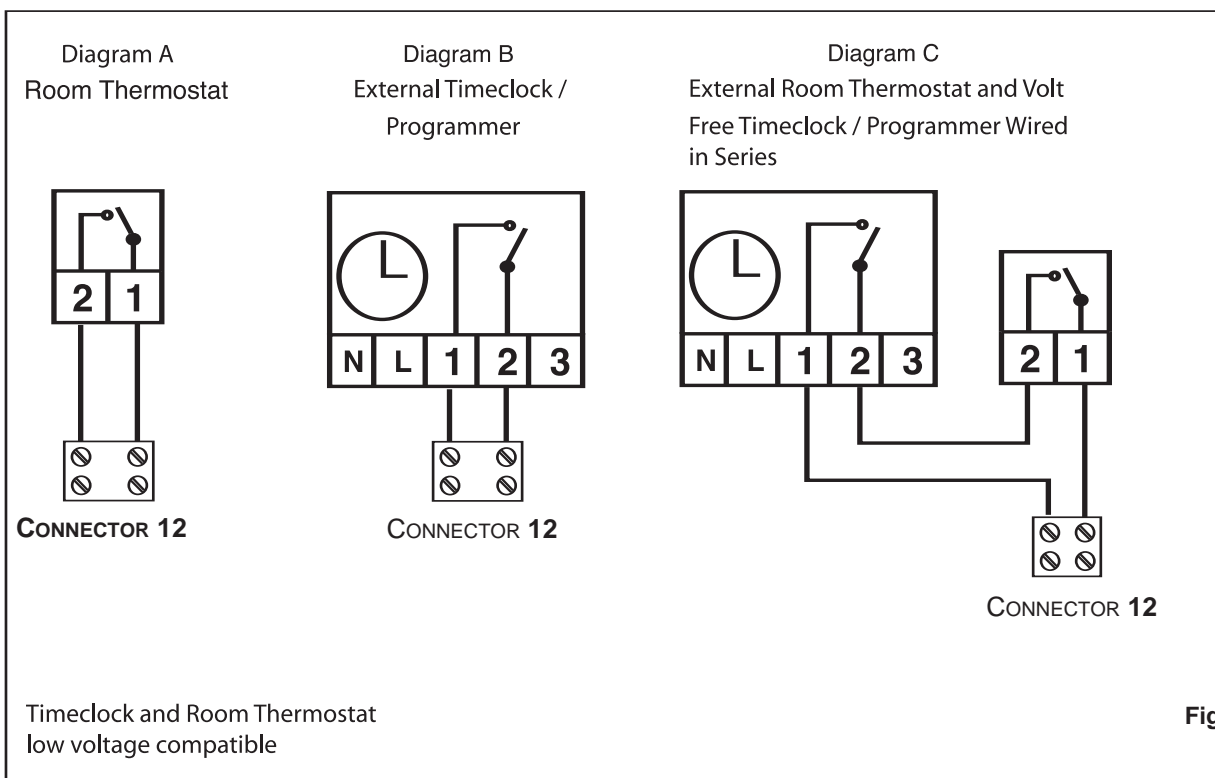

Fig. 32
If using a room thermostat or other external control, they can be connected in place of the link on the terminal block (Diagram A- Fig. 32).
- If a remote time clock is to be fitted, using a volt-free switching time clock, remove the link wire and connect the switching wires from the time clock following points above (see also **Diagram B Fig. 32**).
- If using an external time clock and room thermostat, remove the link wire and connect in series as above (see also **Diagram C Fig. 32**).